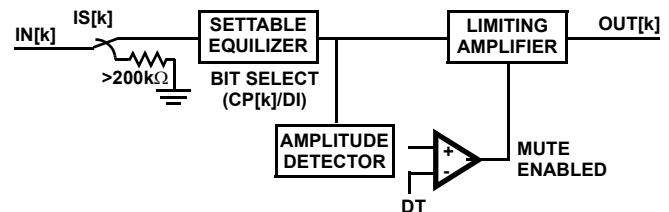

FIGURE 17. FUNCTIONAL DIAGRAM OF A SINGLE CHANNEL WITHIN THE QLx4300-S45
The QLx4300-S45 is an advanced quad lane-extender for high-speed interconnects. A functional diagram of one of the four channels in the QLx4300-S45 is shown in Figure 17. In addition to a robust equalization filter to compensate for channel loss and restore signal fidelity, the QLx4300-S45 contains unique integrated features to preserve special signaling protocols typically broken by other equalizers. The signal detect function is used to mute the channel output when the equalized signal falls below the level determined by the Detection Threshold (DT) pin voltage. This function is intended to preserve periods of line silence (“quiescent state” in InfiniBand contexts).
As illustrated in Figure 17, the core of each high-speed signal path in the QLx4300-S45 is a sophisticated equalizer followed by a limiting amplifier. The equalizer compensates for skin loss, dielectric loss, and impedance discontinuities in the transmission channel. Each